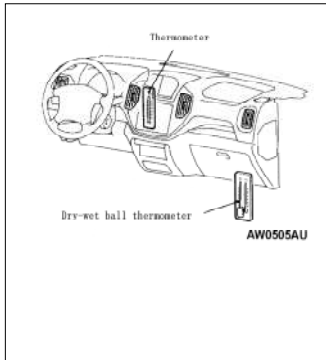

Fig.21-14
- (10) Insert a thermometer in the central air outlet of instrument panel, and install a dry-wet ball thermometer into air inlet port (see Fig.21-14).